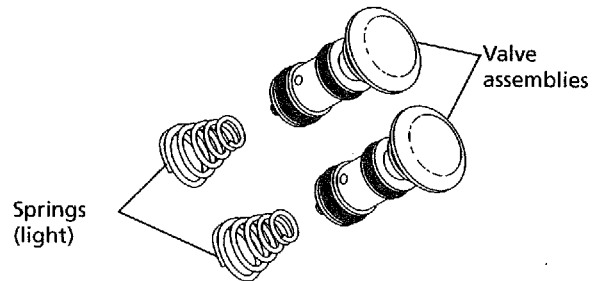

Figure 61. Install valve assemblies.
3. Lightly lubricate the outside of the O-rings on the new valve assemblies (see Figure 61) with the
A-dec silicone lubricant supplied. Install the new valve assemblies and springs in the syringe head. Be sure the small end of the spring is toward the valve (see Figure 61).